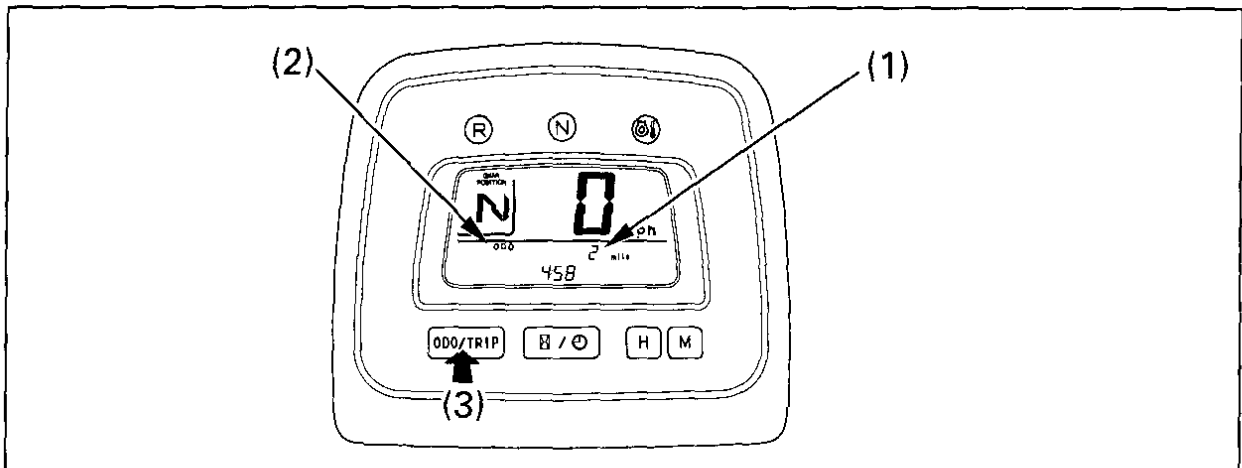

Fig. 2-17 (1) Odometer (3) Odometer/Tripmeter select button
When selected, the odometer (1) (Fig. 2-17) registers total distance traveled in miles while the ignition is ON (I). To change the display (2) from tripmeter to odometer, press and release the Odometer/Tripmeter select button (3).